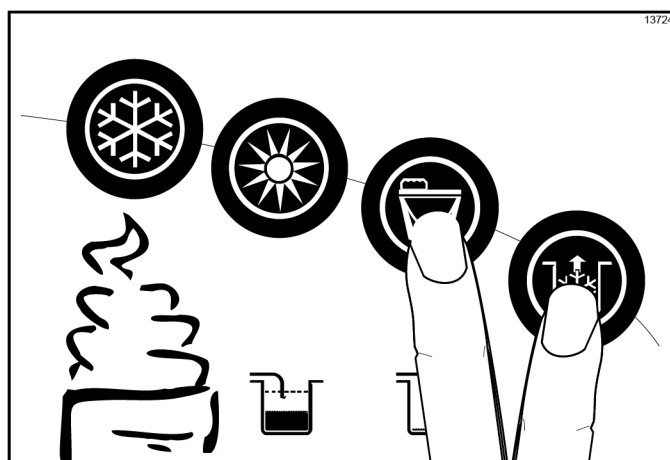

Figure 6-57
3. When the flow of product stops, press the Wash and Pump keys  , canceling the Wash and Pump modes. Close the draw valve. Properly dispose of the mix. (See Figure 6-57.)